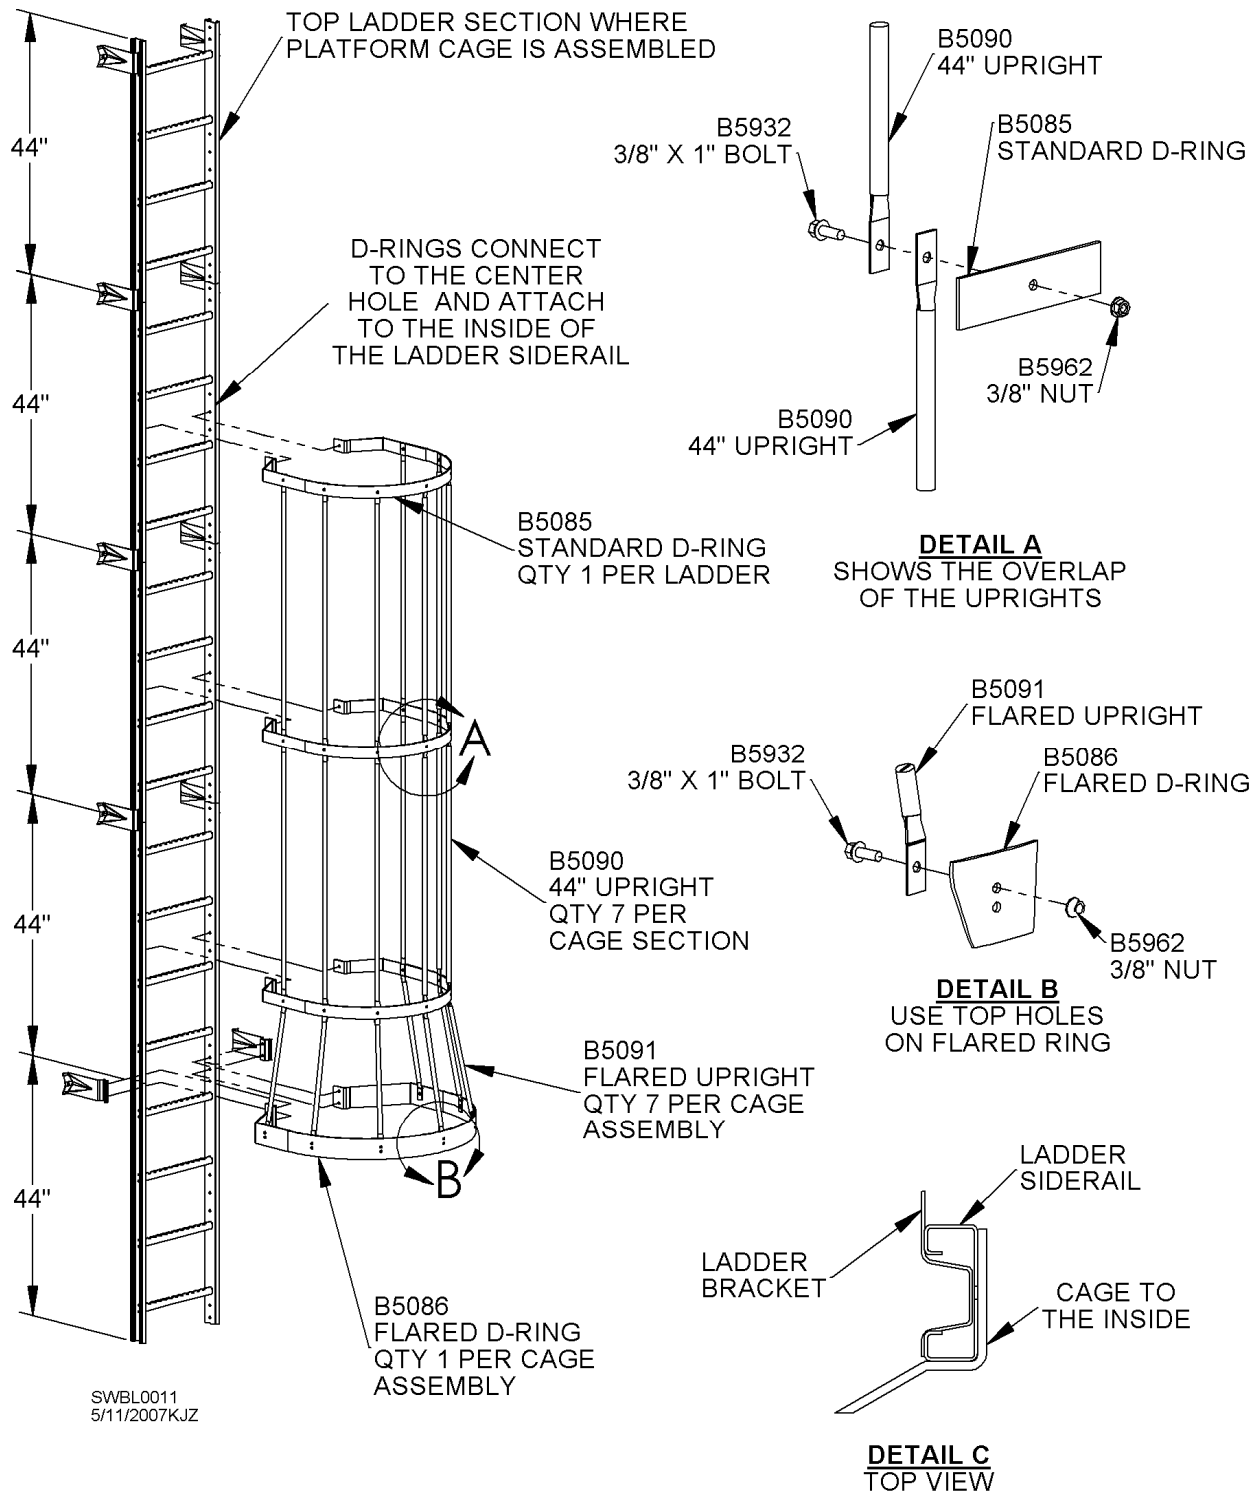

Fig. 17
As bin is built, continue to add appropriate ladder and cage sections. Refer to following pages for specific ladder and cage layouts. Cage sections consist of standard D-rings and seven (7) uprights. Standard D-rings attach to inside of ladder siderails. A flared D-ring is always used at bottom of each cage assembly. Top D-ring must be connected to center of top ladder. This allows bottom flared D-ring to be at proper height above the next surface (concrete or landing platform). Assemble standard D-rings and uprights to ladder sections with 3/8" hardware. See Fig. 17.